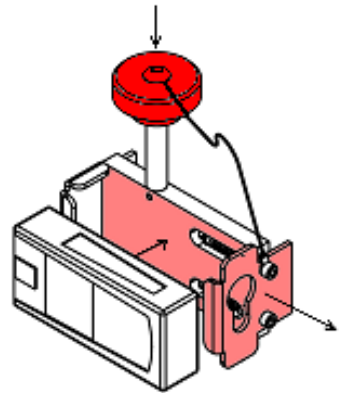

Figure 2
3. Place the Laser Range-finder into the Laser Carriage by extending the front, sprung plate (as shown in figure 2).
Place the Laser Carriage into an appropriate Pivot Socket and lock in the socket using the Locking knob attached (as shown in figure 2). Switch the Laser Rangefinder on to ensure that the laser falls onto target.